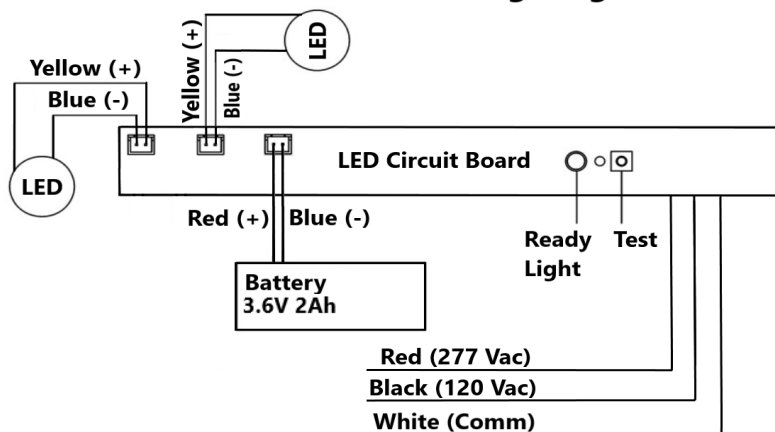

Figure 1 - Wiring Diagram
- Ensure that power is off, then connect the power supply, 120 or 277 Vac, to the appropriate input wires, using the provided wire nuts, according to "Figure 1 - Wiring Diagram." The unused wire must be capped off using a wire nut.
- Using the provided (2) mounting screws, secure the fixture to the junction box.